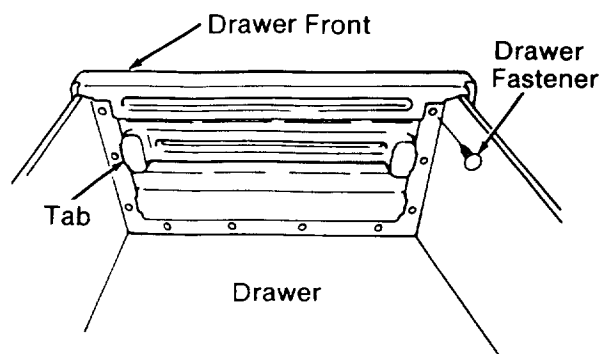

Fig. 45
2. Slide the *drawer fronts* onto the *drawers*. Make sure that the tabs on the plastic *drawer fronts* slide over the metal *drawers* to help hold them in place. (Figure 45)
3. Push a plastic *drawer fastener* into each of the holes to hold the *drawers* together. (Figure 45)